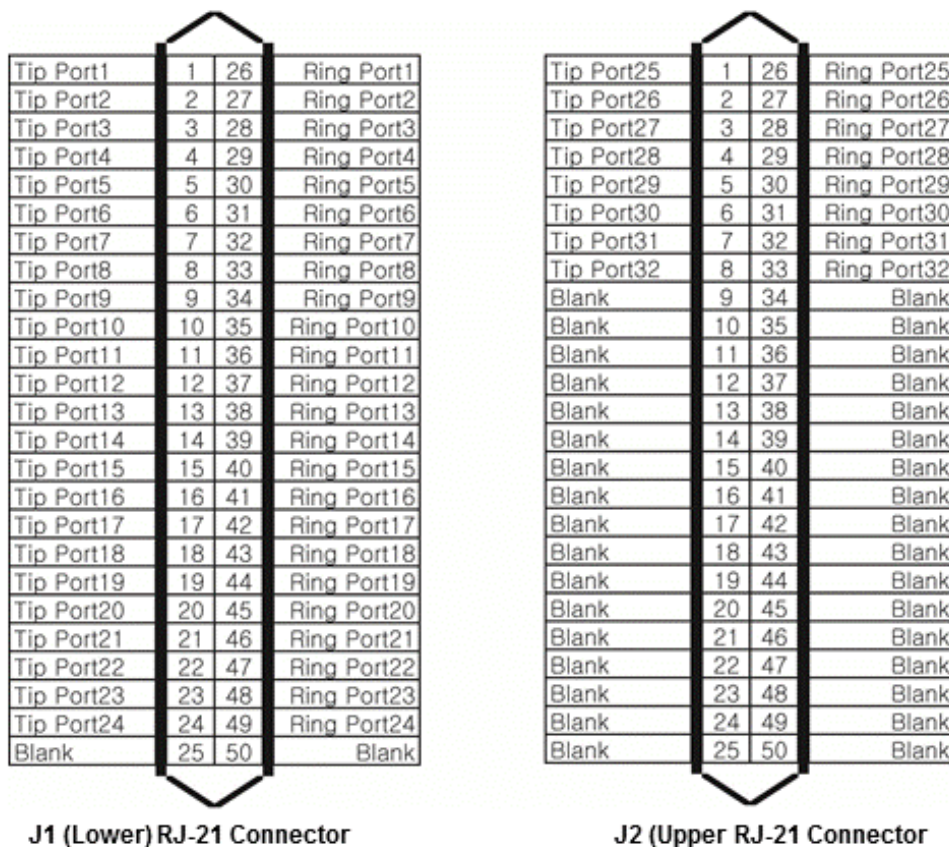

Figure 6.10-2 SLTM32 RJ-21X Connector Configuration
On the rear are two (2) 25-pair RJ-21x style connectors terminated as shown in Figure 6.10-2. These connectors should be wired to the SLT termination point as shown in the figure.